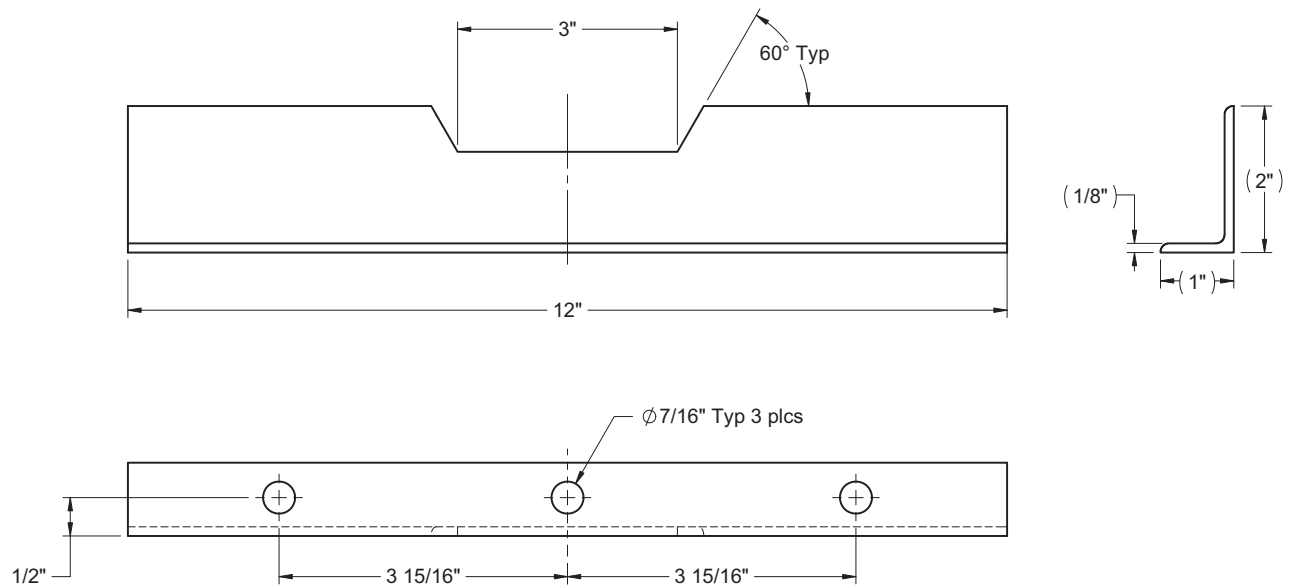

Figure 5: Mounting Bracket Modification
1. Cut two 2" x 1" x 1/8" thick x 12" long angle iron as per the sketch shown in Figure 5 below. (ASTM A36 or equivalent material).